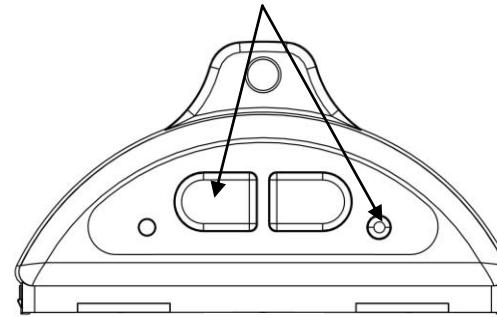

Fig. 1
- 2) Push and hold the small round button and the large OPEN/RAISE button (see Figure 1 below) simultaneously and hold for approximately 6 seconds. The red light will flash rapidly.